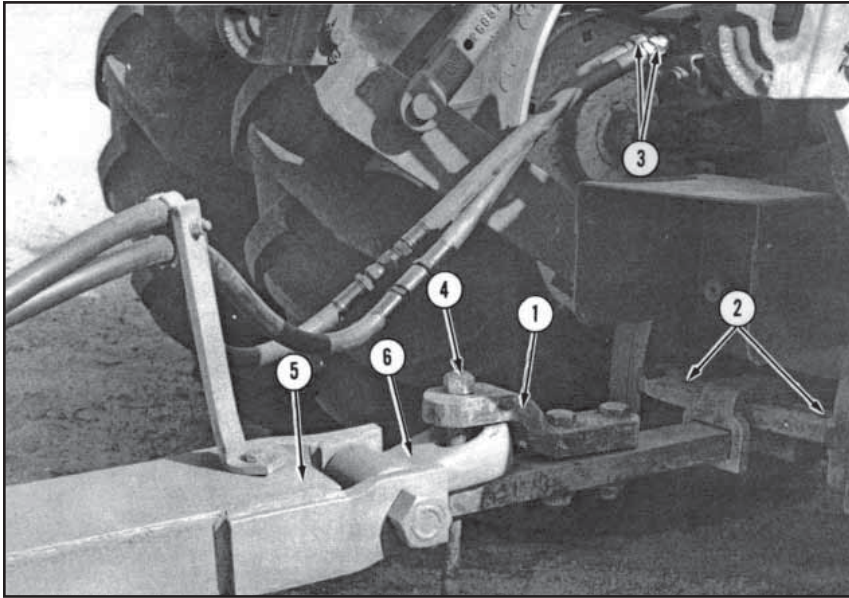

Figure 10 - Hitching the Tractor
DRAWBAR CLEVIS (Figure 10)
DRAWBAR BALE PINS (Figure 10)
4.2.1 HITCHING THE DISC (Figure 10)
- 1. Back the tractor until hole in the drawbar and clevis is directly over the hole in the disc harrow pole hitch (6).
- 5. Slowly raise the transport wheels on the disc which will also raise the disc hitch (6 in Fig. 10) up to the tractor drawbar level.
- 6. Swing the tractor drawbar back until the disc harrow hitch (6 in Figure 10) is positioned between the tractor drawbar and drawbar clevis.
- 7. Install and secure tractor drawbar hitch pin (4 in Figure 10).
2. Carefully lower the disc until it rests on the ground. Then continue to feather the hydraulic control lever in the lower direction to carefully raise the hitch (6, Figure 10) until it is not supported by the tractor drawbar.